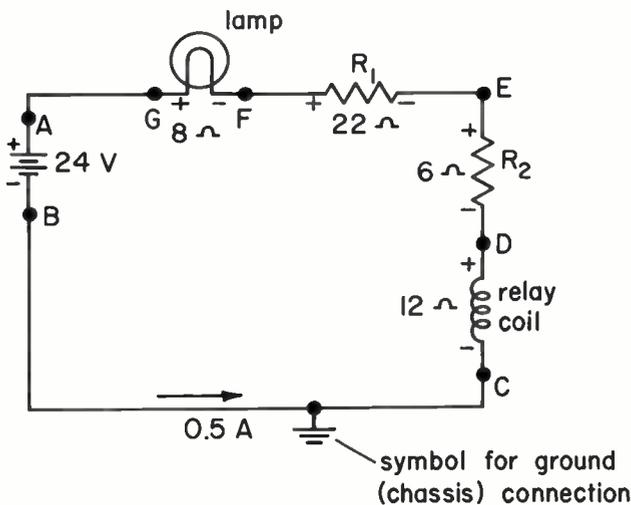
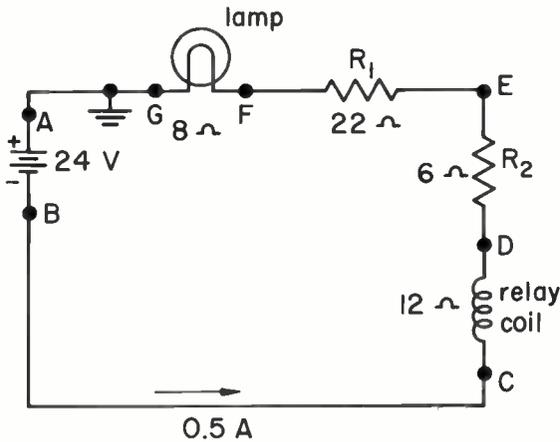

Fig. 22 Voltage measurements often use ground as the reference point.
Fig. 23
9 GROUND AS THE REFERENCE POINT FOR VOLTAGE MEASUREMENTS . . . As we'll see in the next topic, most practical electronic equipment has some point in the circuitry grounded. Very frequently, the metal chassis to which the ground connection is made is used as the reference point to which voltage measurements are made. For example, the voltage with respect to ground at point *F* in Fig. 22 is +20 V. Similarly, the voltage to ground at point *D* is +6 V.
5. In Fig. 22, the voltage and polarity to ground of the positive terminal of the battery are _____, and the voltage and polarity to ground of the negative battery terminal are _____.
6. In Fig. 23, the voltage and polarity to ground of the positive terminal of the battery are _____. The voltage and polarity to ground of the negative battery terminal are _____. The voltage across the battery in both Fig. 22 and Fig. 23 is _____ V.
7. In Fig. 23, the voltage and polarity to ground at point *F* are _____; at point *E*, they're _____; at point *D*, they're _____; and at point *C*, they're _____ V.
6. 0 V; -24 V . . . Your voltmeter is, of course, measuring the voltage across the battery when the leads are connected at point *B* and at ground in Fig. 23. For a forward meter reading, the negative lead of the voltmeter must be connected to point *B*, the negative battery terminal. Hence, point *B* is -24 V with respect to ground; 24